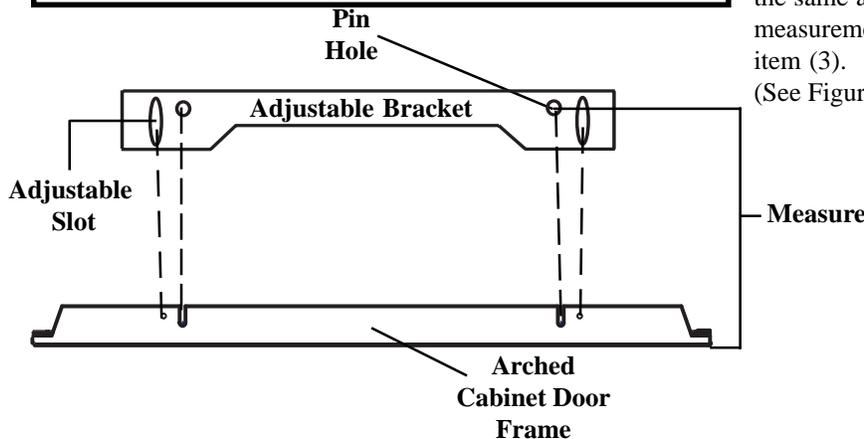

Figure 1 - Attaching adjustment bracket to arch frame
2. Attach adjustment bracket to the top of the arched cabinet door frame/ arched screen frame using the locking nuts provided. (See Figure 1)
4. The measurement from the pin hole of the adjustable bracket to the front of the arch cabinet door frame/ arch screen frame will be the same as the measurement in line item (3). (See Figure 1)